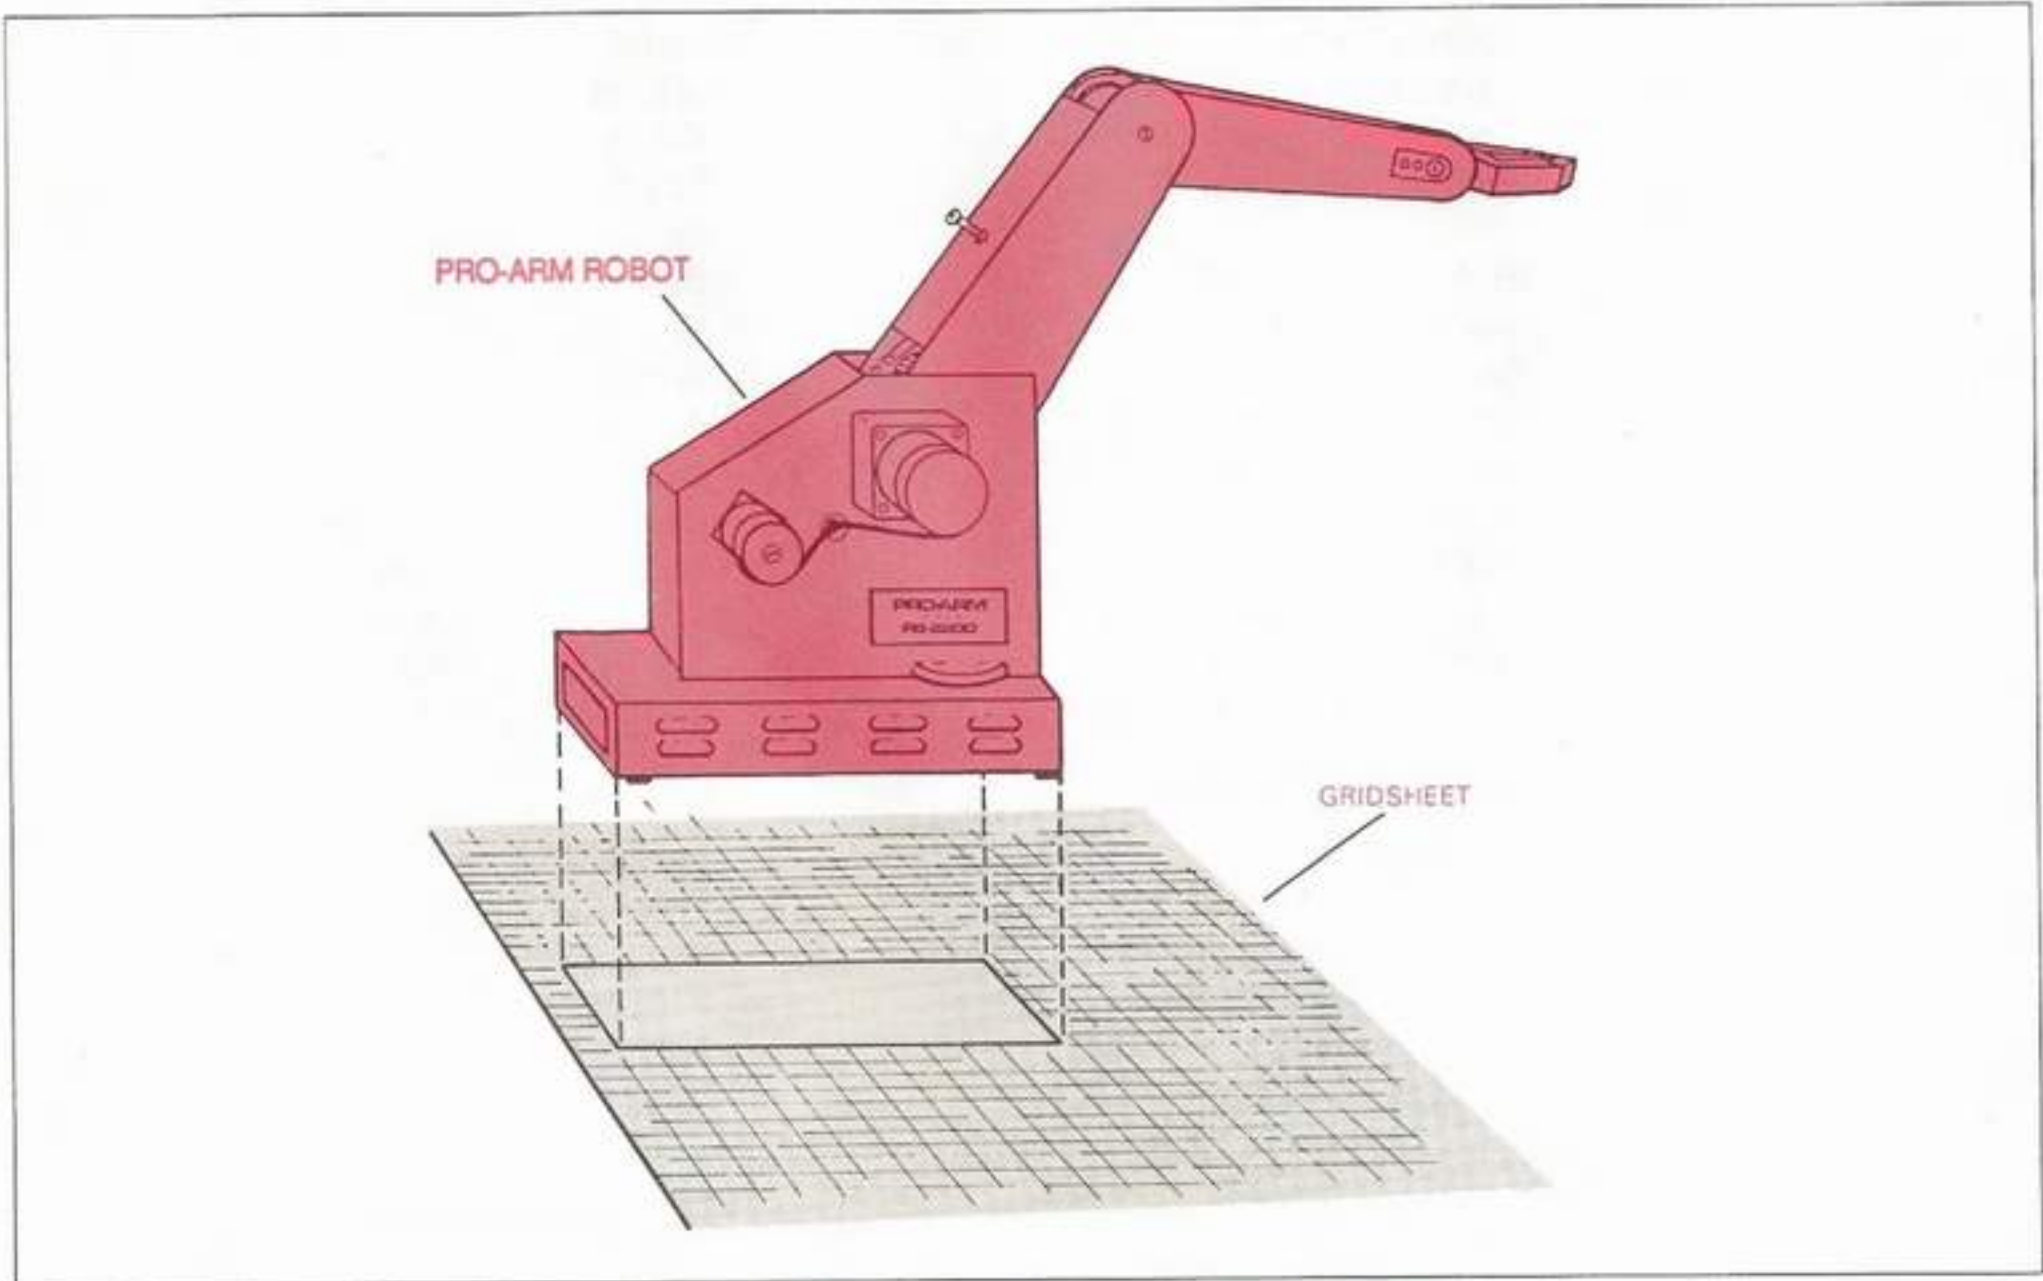

Fig. 3: Positioning the Pro-Arm on the Grid Sheet
- ___ c. Place the Pro-Arm robot on the grid sheet in the position indicated. (Refer to Fig. 3.)